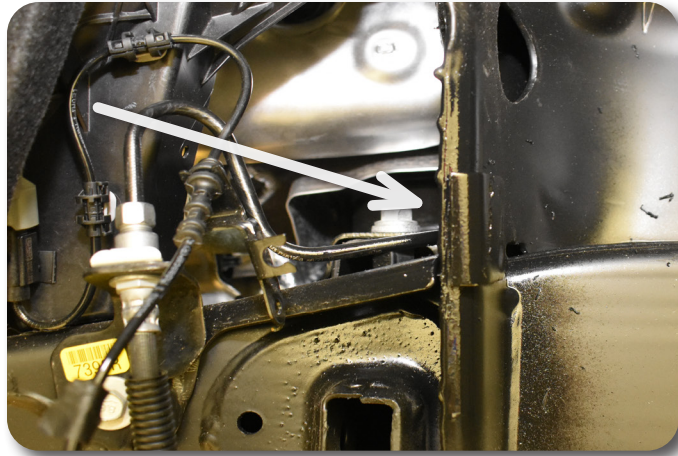

Figure 36
55. The new replacement control arm assemblies have a larger profile than the OEM assemblies. They are also designed with a wider range of available travel. Due to these unique differences, the tab on the side of the strut bucket must be removed to avoid interfering with the proper function of the new control arm assembly. Cut the tab from the side of the strut bucket as shown in **Figure 36**.